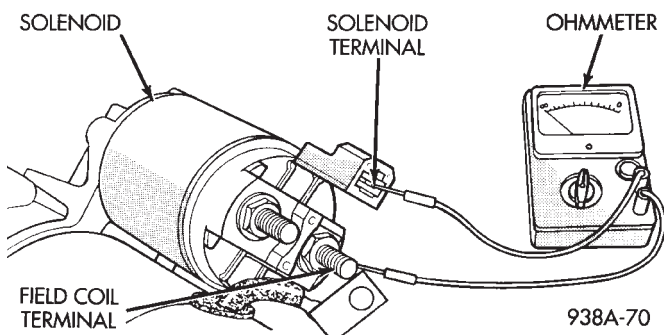

**Fig. 17 Continuity Test Between Solenoid Terminal and Field Coil Terminal—Melco**
(2) Check for continuity between solenoid terminal and field coil terminal with a continuity tester. Continuity should be detected (Fig. 17 or 18).